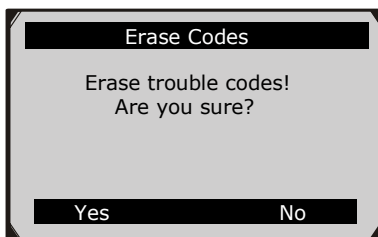

Figure 5.6
- 2) A warning message comes up asking for your confirmation. (Figure 5.6)